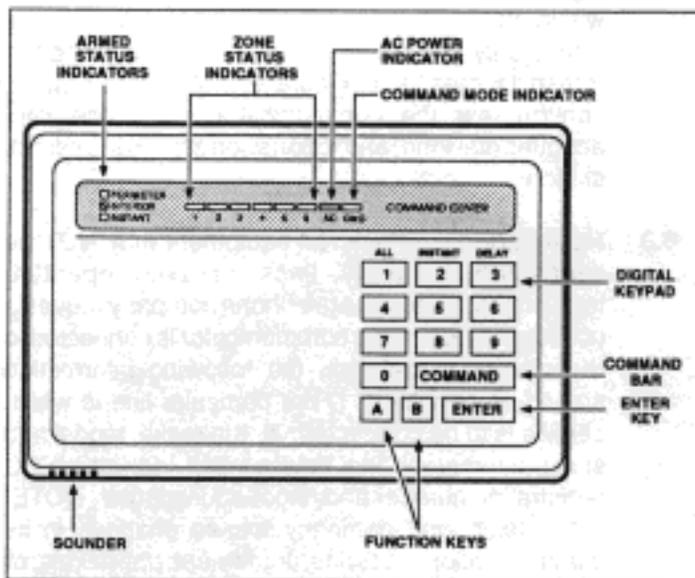

Figure 5: D420A COMMAND CENTER KEYPAD
- 7.5 **The Display Panel** - The display panel for the D420A Command Center annunciates four different types of status: arming, zone, AC power, and Command Mode (see Figure 5).
**Zone Status:** The D420A contains six *numbered* indicator lights, which are used to annunciate the condition of the D4112 protective zones (see Figure 5).